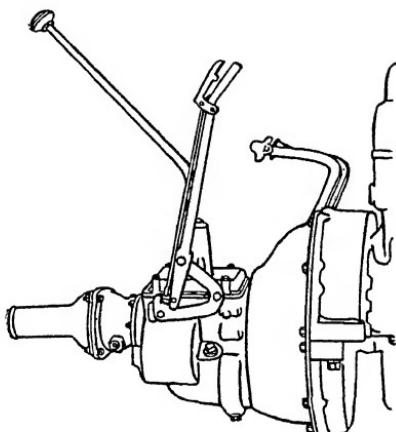

Fig. 3. When the Engine Has Been Lifted
**Removing Transmission.** It is generally possible to remove the transmission after the power unit has been cleaned and disturb no other parts. This is done so as to get it out of the way for the work which is to proceed upon the engine. See Fig. 3.